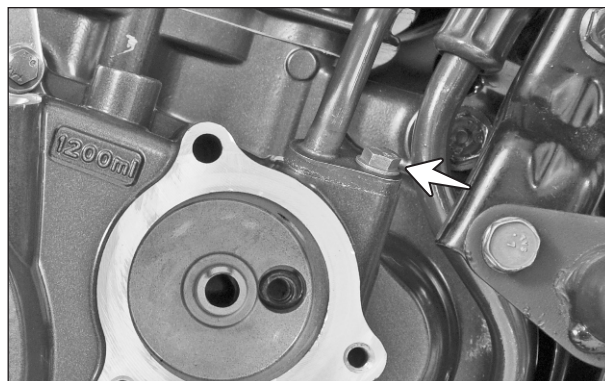

Fig. 3.5
- Remove the hexagonal flange bolt (M6x25 - 1 no.) from the pipe complete outlet of engine oil cooler and dislocate the pipe from the cover clutch. (Fig. 3.5)